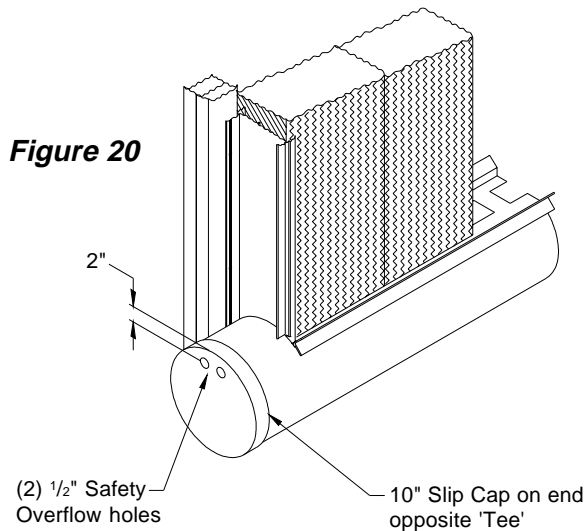

Figure 20
- 3) One option is to drill (2) $\frac{1}{2}$ " holes placed side by side, centered 2" from the top of the slip cap, **See Figure 20.**